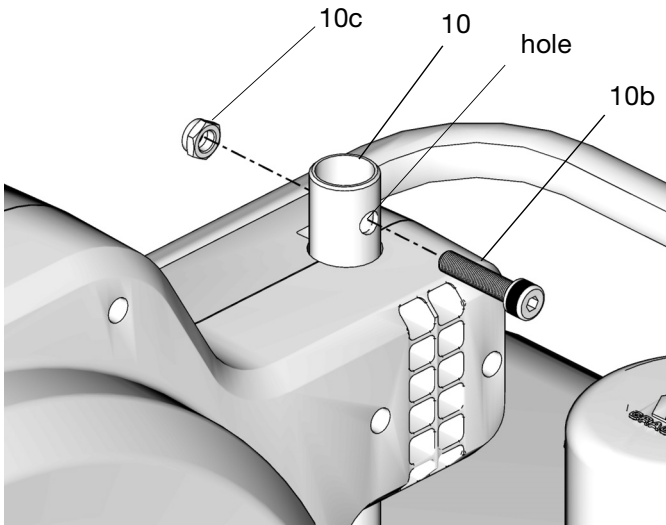

FIG. 18
4. Install the screw(10b) through the hole in the reel bracket (10) and secure in place with the nut (10c) to hold the hose reel securely in place (FIG. 18).